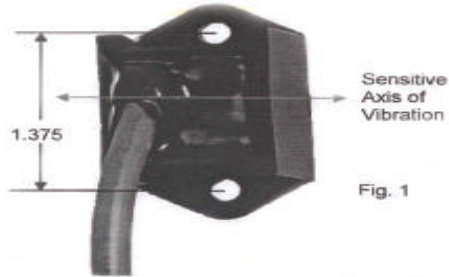
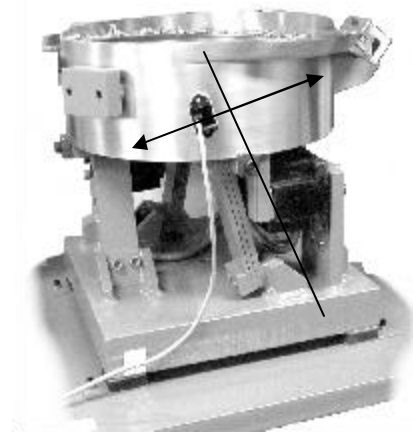

Fig. 1
Fig. 2 The arrow shows the direction of vibration which is at a right angle to the spring pack.
- A. **ORIENT THE SENSOR** so that its sensitive axis is in the same direction as the vibration of the feeder. The double-ended arrow in figure 1 shows the sensor's sensitive axis. Align the sensitive axis of the sensor in the same direction as the vibration (see figure 2). The sensor must be oriented correctly for proper operation.
The sensor cable should bend towards the power control with a bend radius of 3 inches or greater. Use a tie wrap mounting-base (or a non-vibrating surface). See figure 2.